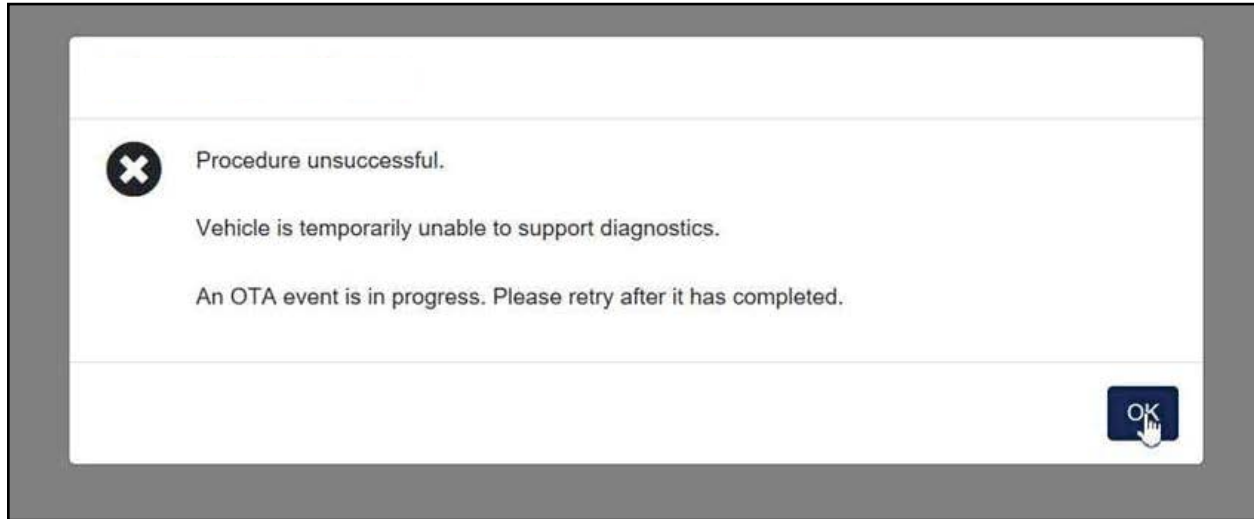

FIGURE 12
27. Was **Procedure Unsuccessful** displayed on the screen as shown in Figure 12?